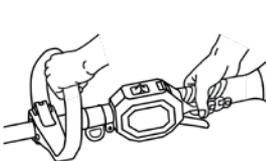

Fig. 7A
1. Stand upright and hold the product as designed. Place one hand on each handle. Make sure the machine is not touching the ground or any other objects. (Fig.7A)